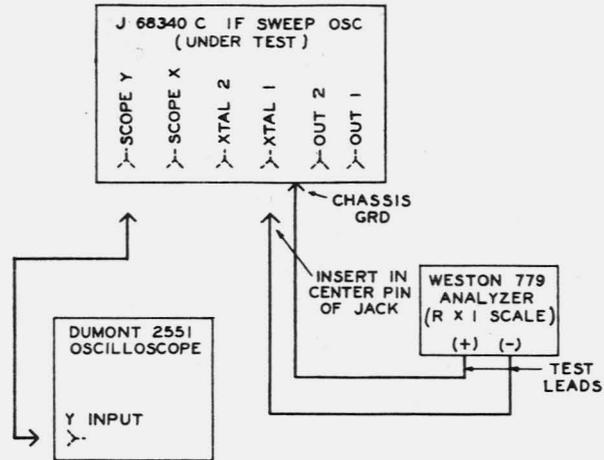
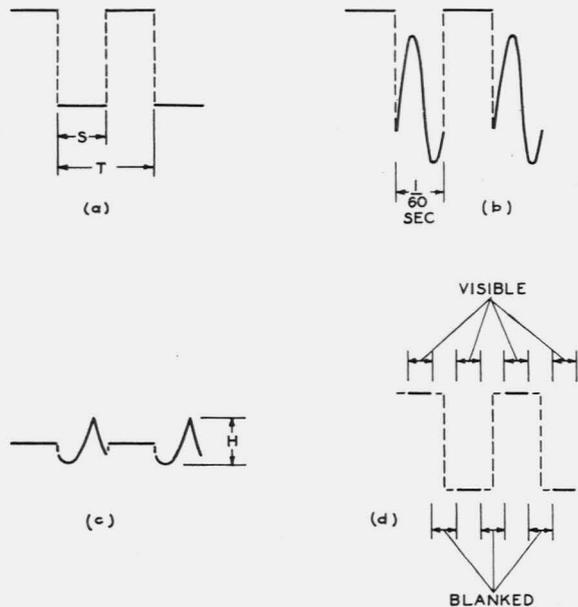
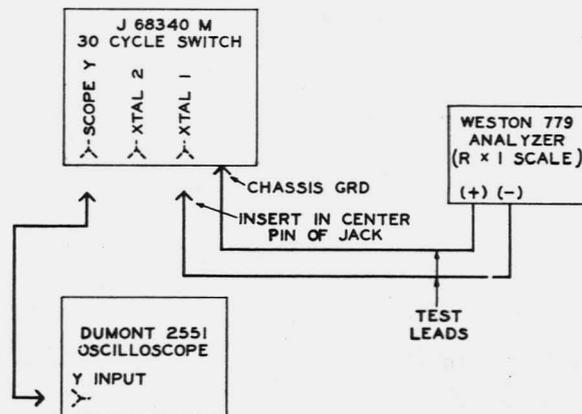

Fig. 5 - Circuit to Check Switch and Slope Circuits
Fig. 6 - 30~ Switch Wave Forms
Fig. 8 - Circuit to Check Switch Circuit
- Set up the circuit of Fig. 5. The SLOPE switch should be off and the ADJ XTAL 1 potentiometer set at maximum (CW). The oscilloscope should be operated with internal sweep at about a 15 cycle rate, with line frequency sync and no blanking.
- Turn the ADJ 30~ control until the switch synchronizes in a stable manner at a 30 cycle rate and the oscilloscope pattern is similar to Fig. 6(a). If there is any doubt that
the frequency is correct, patch the SINE SWEEP jack to the XTAL-1 jack, and note that a full cycle of line frequency appears superimposed on one half of the switch pattern as in Fig. 6(b). Thus, one half of the switch period is 1/60 second, or 1/30 second for the full period. Remove this connection when the rate is correct.
- Referring to Fig. 6(a), adjust the oscilloscope horizontal gain until one switch period, T, is 2 inches wide.
- (5) Turn the ADJ SLOPE control to maximum, and turn the SLOPE, OSC and SWEEP switches on. Remove the Analyzer test lead from the XTAL 1 jack. The pattern should now appear similar to Fig. 6(c).
- (1) Set up the circuit of Fig. 5. With the SLOPE switch off, turn the oscilloscope blanking on. Note that the pattern is like that of Fig. 6(d). The transfer time of the switch contacts should occur near the middle of the blanked-out portion of the trace. If not, turn the ADJ 30 ~ control until this is so. If the synchronization appears unsteady near this setting, reverse the plug of the oscilloscope power cord in its receptacle to change the relative polarity of blanking, and again adjust to obtain the correct pattern.
- (1) Set up the circuit of Fig. 8. The ADJ XTAL 1 potentiometer should be at maximum. Operate the oscilloscope with internal sweep at about a 15 cycle rate, with line frequency sync and no blanking.
(2) Turn the ADJ 30~ control until the switch synchronizes in a stable manner at a 30 cycle rate and the oscilloscope pattern is similar to Fig. 6(a). If there is any doubt that the frequency is correct, patch the SINE SWEEP jack to the XTAL 1 jack, and note that a full cycle of line frequency appears superimposed on one half of the switch pattern as in Fig. 6(b). Thus, one half of the switch period is 1/60 second, or 1/30 second for the full period. Remove this connection when the rate is correct. If synchronization is difficult, check R1, C2, and R25.
(3) Referring to Fig. 6(a), adjust the oscilloscope horizontal gain until one switch period, T, is 2 inches wide.
(1) Set up the circuit of Fig. 8. Return the ADJ XTAL 1 control to maximum and switch on the oscilloscope blanking. Note that the pattern is like that of Fig. 6 (d). The transfer time of the switch contacts should occur near the middle of the blanked-out portion of the trace. If not, turn the ADJ 30 cycle control until this is so. If the synchronization appears unsteady near this setting, reverse the plug of the oscilloscope power cord in its receptacle to change the relative polarity of blanking, and again adjust to obtain the correct pattern.